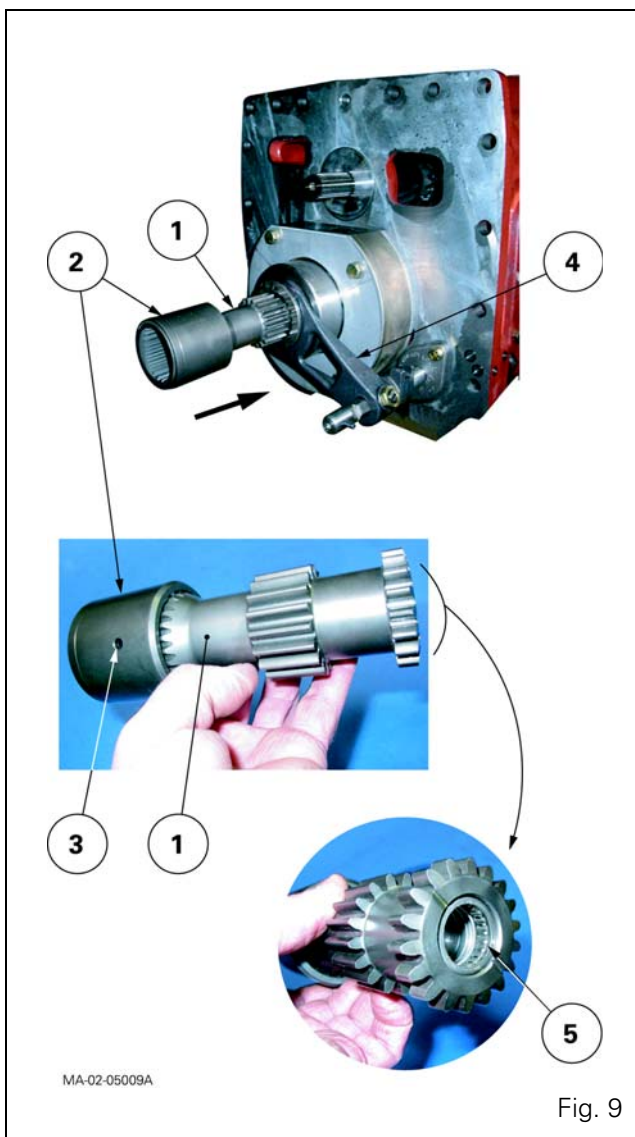

Fig. 9
- Correct assembly of shaft (1) composed of sleeve (2) and double pin (3) (Fig. 9).
38. Push the fork (4) towards the front of the gearbox in direct drive position (Fig. 9).
The gearbox output shaft supports the shaft (1) via the needle roller bearing (5) (Fig. 9).